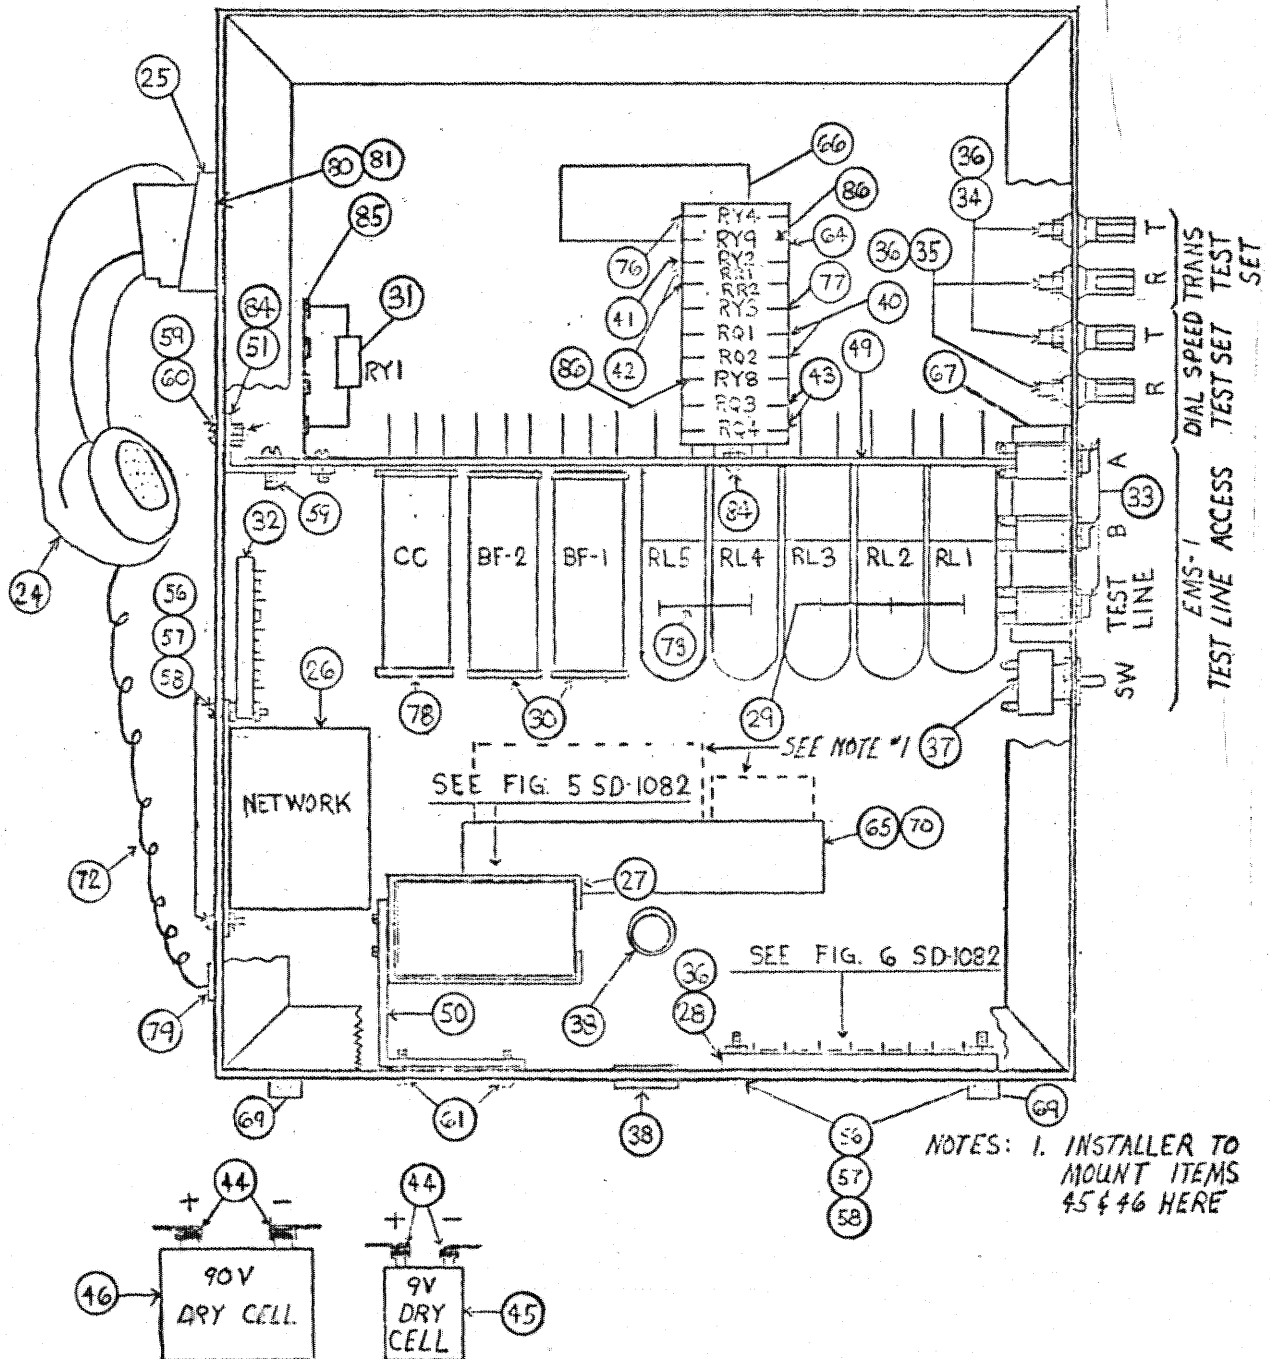

Figure 2-2. Inside Layout
- 6.02** The WIRE CHIEF contains two batteries, which are shipped uninstalled. Mount the batteries as shown in Fig. 2-2 and ensure proper polarity of the battery clips. The batteries have normal shelf life of two years. Replace the batteries at least every two years, or a minimum of 4.8 volts for the 9 volt and 54 volts for the 90 volt battery.